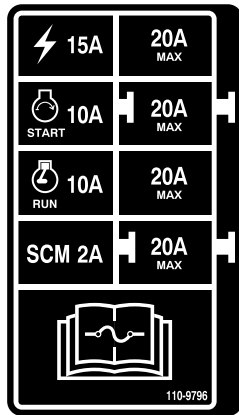

Figure 74
**Important:** If you need to replace a fuse, always use the same type and amperage-rated fuse as the one you are replacing, otherwise you could damage the electrical system. Refer to the decal next to the fuses for a diagram of each fuse and its amperage (Figure 74).